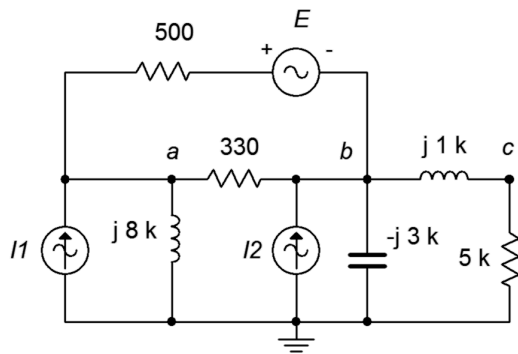

Figure 6.31
66. Given the circuit in Figure 6.31, use nodal analysis to find v_{ac} . $I1 = 8\text{E-}3\angle 0^\circ$, $I2 = 12\text{E-}3\angle 0^\circ$, $E = 50\angle 0^\circ$.